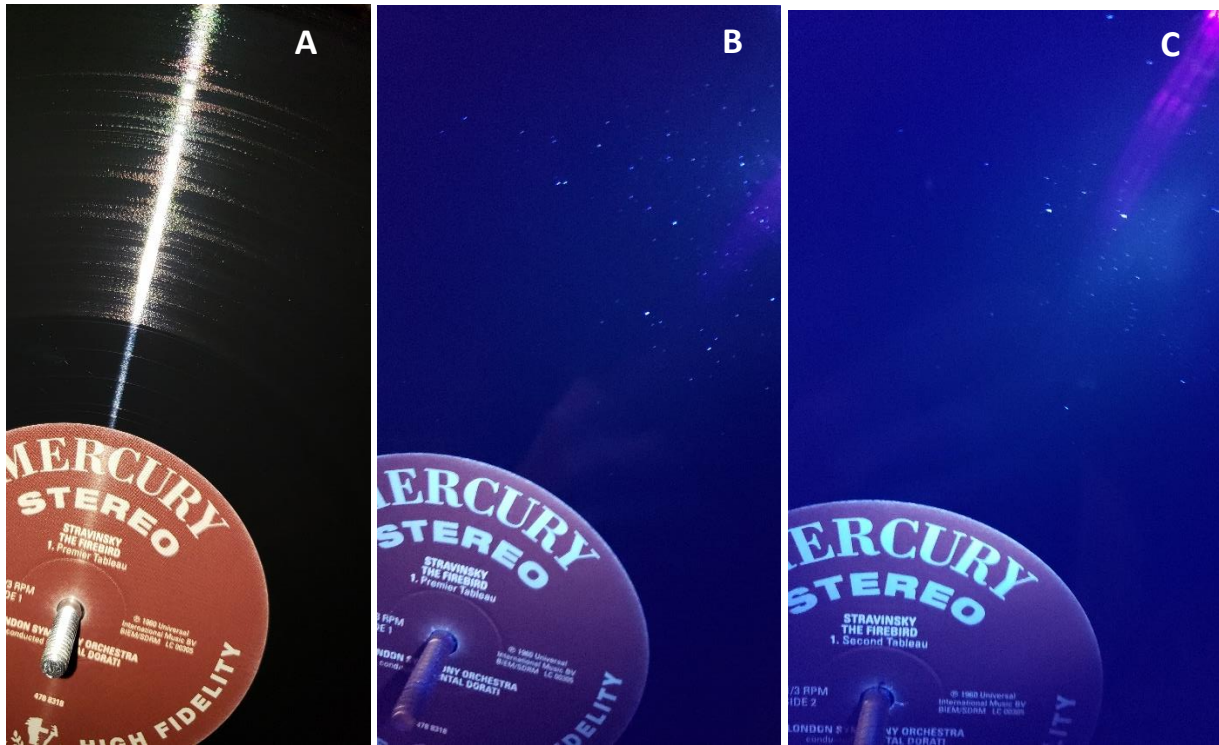

Figure 11 – One Record Inspected White & UV Light Before-After Cleaning
- IV.7 **Figure 11** is a well-known new record. Photo A is white light after the record had been cleaned with a well-known record brush and an optical cleaning solution that will only lightly wet the record; very similar to the Discwasher™ process. Photo B photo is the record under UV light and it shows a lot of detritus/lint/particles remaining, and the record played as it looked, very noisy. Photo C is the record after cleaning as specified **CHAPTER V. MANUAL**
IV.8 What is the source of the very fine particles that are in the groove? After reading this post Record Cleaners - a confession | Page 2 | Audiokarma Home Audio Stereo Discussion Forums, it occurred to me that the particles can be mineral salts (such as calcium & magnesium carbonate) which fluoresce intensely. The source is not the record formula, it's from the natural aerosols that are in the air. Natural aerosols are (*ref: NASA*) “tiny solid and liquid particles suspended in the atmosphere. Some aerosols come from natural sources, such as dust, volcanic eruptions, and sea salts. Some aerosols are produced by humans, such as pollution from industries or automobiles, or smoke from fires.” Depending on the pressing plant cleanliness, ventilation and handling, these natural background aerosol particles can be pressed-in or deposited on the record. Very small mineral salt particles are easily dissolved/removed with a weak acid; the same process applies when using distilled white vinegar to clean a coffee pot. The record in **Figure 11-C** was cleaned with 1.5% Alconox™ Citranox™ acid cleaner (**V.Step.6**) and the particles were removed and the record played much quieter.